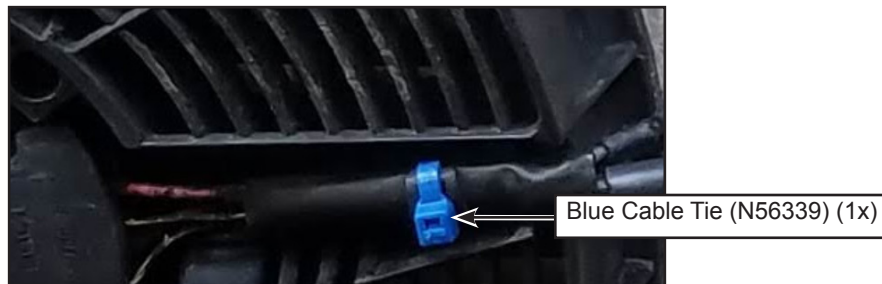

Figure 20 - Blue Cable Tie Securing the Wiring at Fan Side
- 1.36. Secure the fan wiring pigtail with a blue cable tie PN N56339 (1x) (see figure 20).